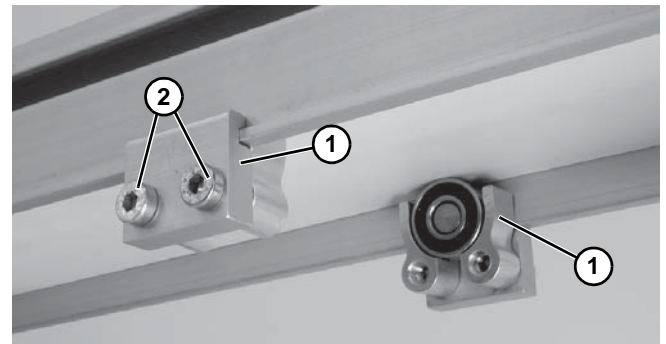

Figure 15
- Install roller assemblies (Figure 15, item 1) as shown. Tighten screws (Figure 15, item 2) to 60 in-lb (7 Nm).